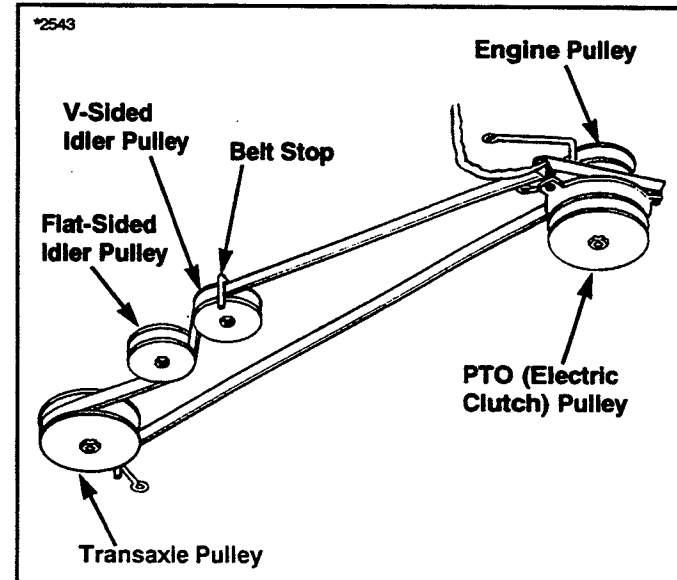

Figure 42. Tractor Drive Belt Routing - Hydro Models
8. See figure 42. Turn the transaxle cooling fan counterclockwise to slip belt through fan blade and slip belt from the transaxle pulley and tractor.
12. See figure 42. Check belt routing around engine pulley, idler pulleys, and transaxle pulley. Check that the electric clutch, drag link and idler pulley spring are all correctly installed.